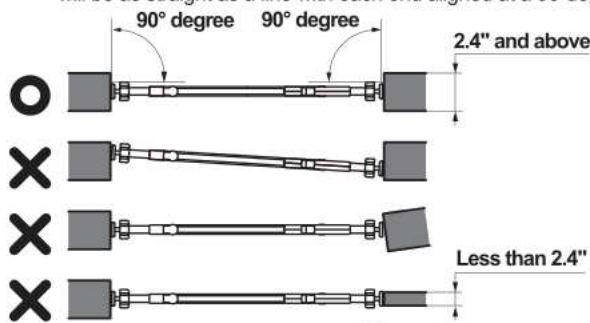

Figure 2
- If the product has been installed correctly, the top of the gate (while looking down from above the top) will be as straight as a line with each end aligned at a 90-degree right angle as shown in Figure 2.
1. Determine the desired direction for the door opening. Set the product against the wall at a perpendicular right angle as shown in Figure 2. Tighten the upper Adjuster Knob until the rubber of the Adjuster Knob touches the wall surface as shown in Figure 3.